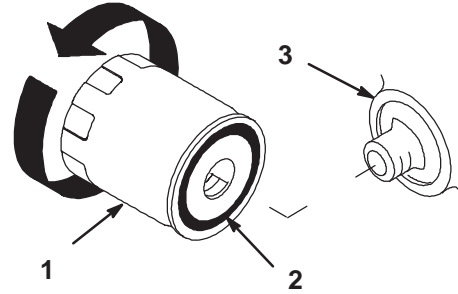

Figure 25
2. Remove the old filter and wipe the filter adapter (Fig. 25) gasket surface.
5. Apply a thin coat of new oil to the rubber gasket on the replacement filter (Fig. 25).
6. Install the replacement oil filter to the filter adapter. Turn the oil filter clockwise until the rubber gasket contacts the filter adapter, then tighten the filter an additional 1/2 turn (Fig. 25).